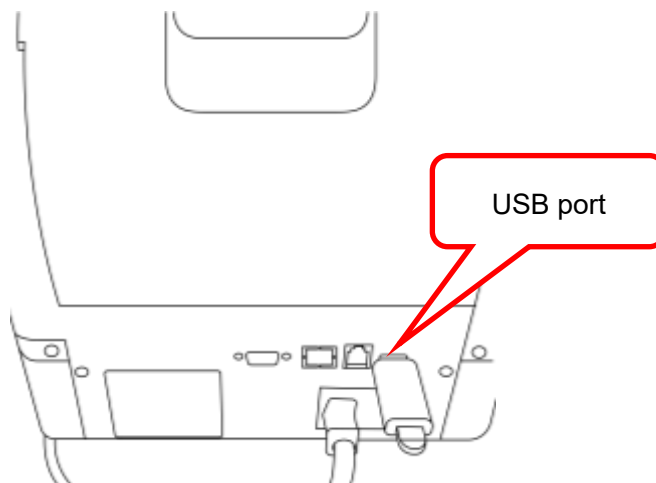

Figure 106
1) Please plug the U-disk into the machine before collection, as shown in Figure 106.